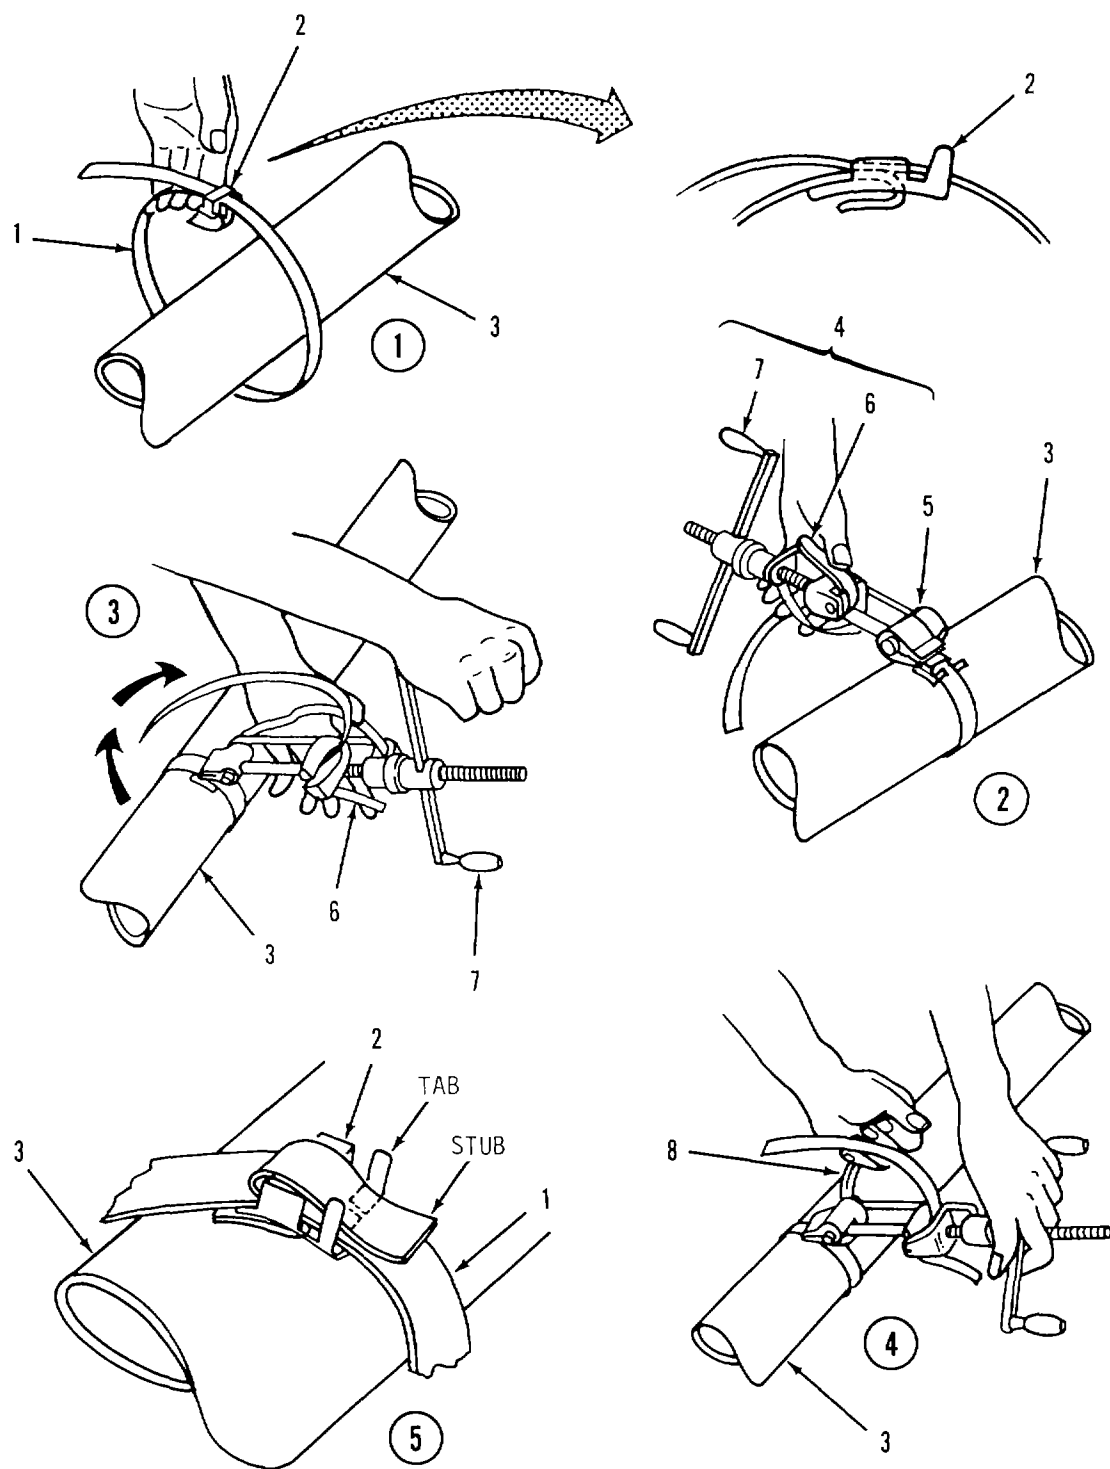

Figure 4-3. Strapping and Seal Installation.
- (2) Cut a piece of strapping (1, figure 4-3) 36 inches long.
- (3) Slide seal (2) onto strapping (1) as shown Bend end of strapping under seal
- (4) Wrap other end of strapping (1) around hose (3) and through seal (2) Position strapping on hose about 1 inch from end of hose.
- (5) Wrap another loop of strapping (1) around hose (3) and through seal (2)
- (6) Position strapping (1) in slots of clamping tool (4) Tool nose(5) should fit snug against seal (2).
- (7) Apply pressure to gripper level (6) and turn handle (7) until strapping (1) is snug. Tool will lock in place when correct tension is applied Reposition tool as required.